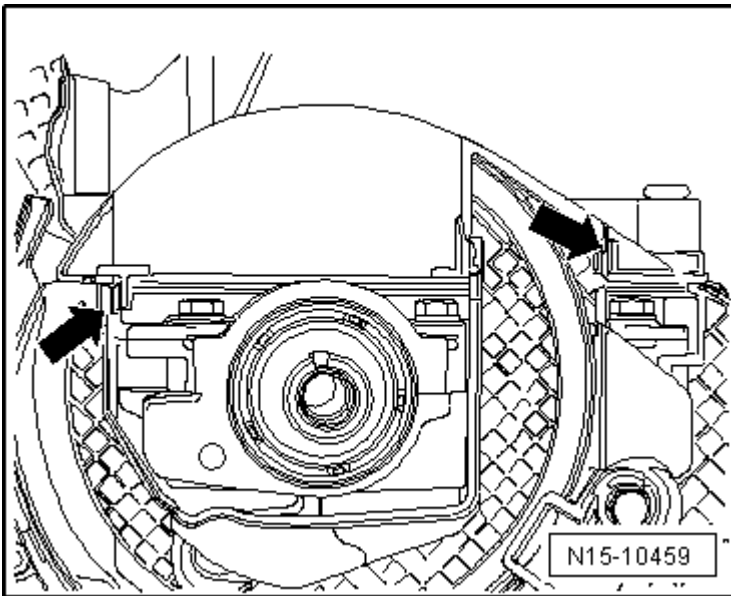

Fig. 8: Identifying Upper Toothed Belt Guard
- Installing, refer to Fig. 8.